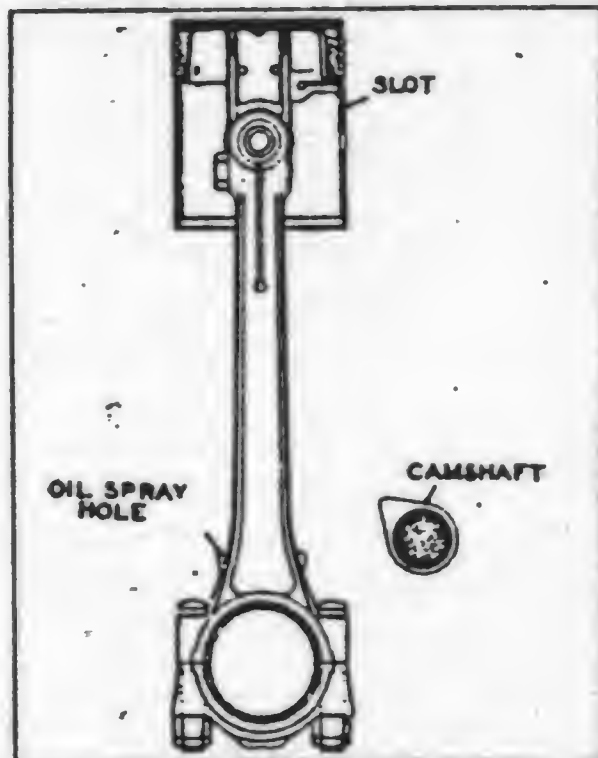

FIG. 32 CONNECTING ROD AND PISTON
(1) Clamp connecting rod in vise using vise jaw protector shields of a soft metal or two pieces of hardwood on each side of connecting rod three inches from piston pin end.
(2) Start piston pin in piston with groove facing down. Assemble piston to connecting rod with the slot in piston, (Fig. 32), opposite oil spray hole in bearing end of connecting rod. Install piston pin clamp screw.